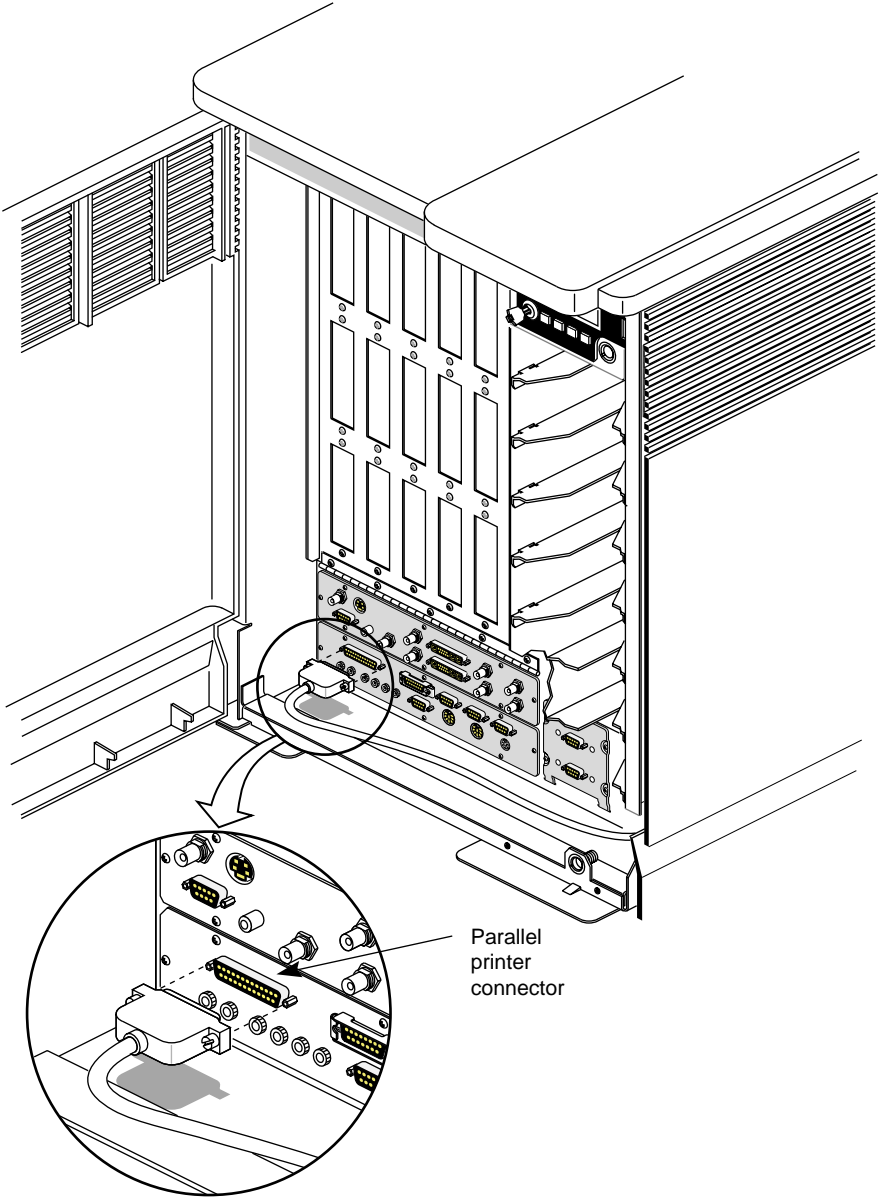

Figure 4-13 Connecting a Parallel Printer Cable
1. Locate the 25-pin, sub-D parallel connector on the main I/O panel (see Figure 4-13).